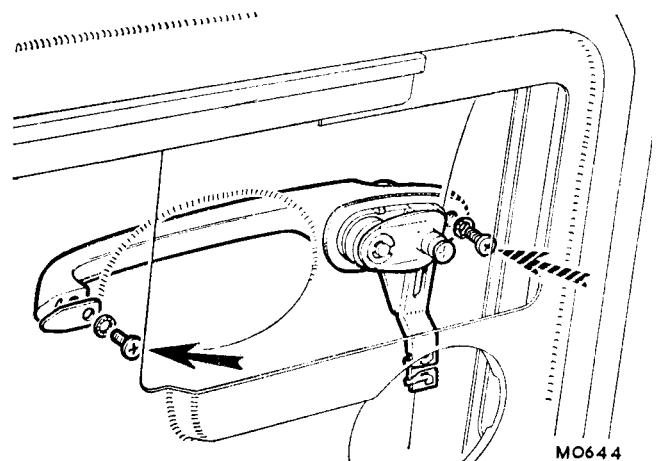

Fig. Rb.7
- Wind up the window, remove the exterior handle securing screws (Fig. Rb.7), and withdraw the handle from the door.